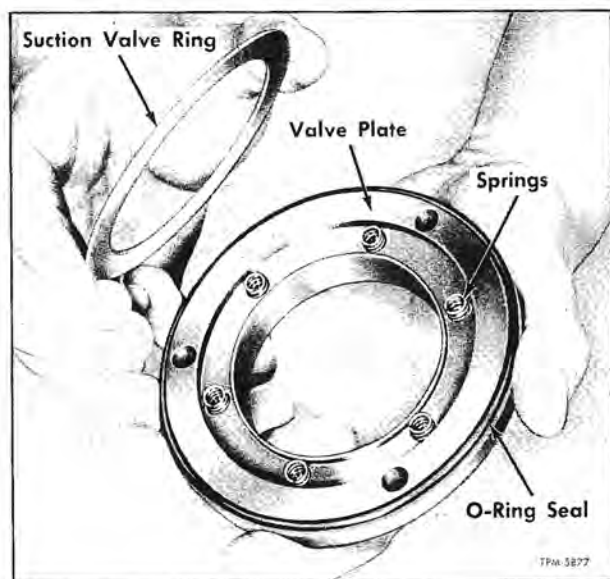

Figure 82—Assembling Suction Valve
1. Install O-ring seal (33) around flange of suction valve plate (45).
2. Insert six springs into pockets of suction valve plate (fig. 82), then place suction valve ring (34) over springs.